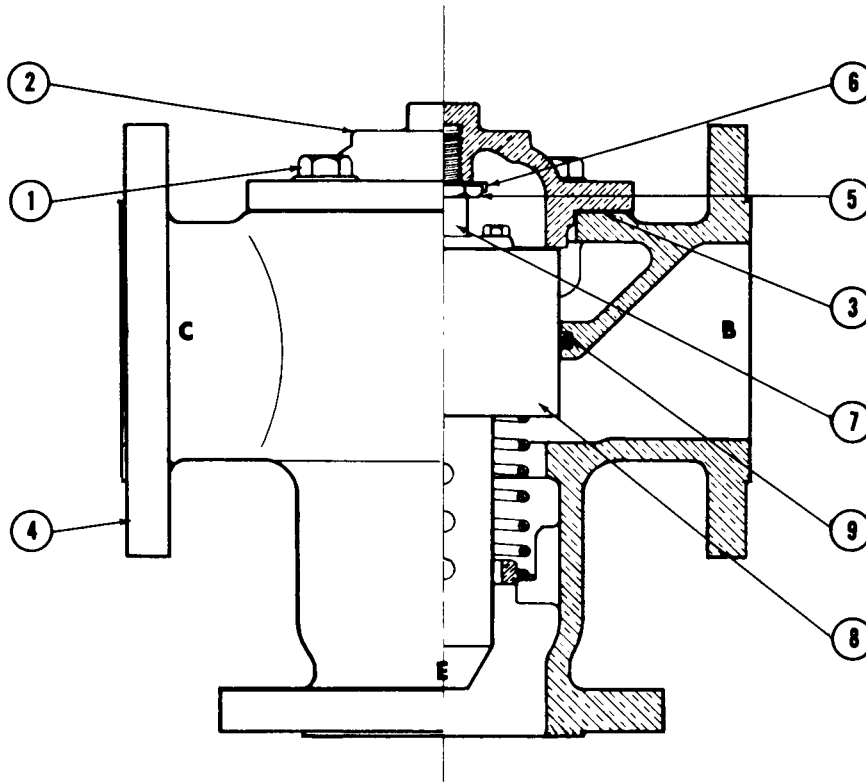

Figure 4
4. Reassemble as shown in Figures 4 through 7, depending on valve size.